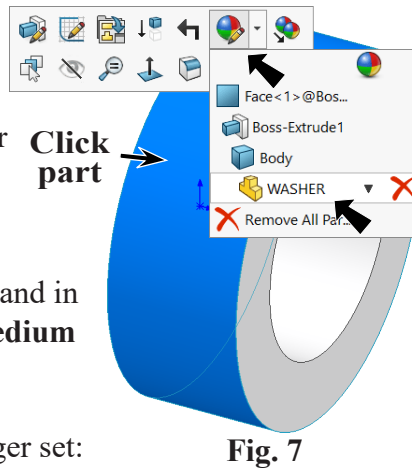

Fig. 7
Step 1. Click part, click **Appearance** Callout on the context toolbar and click **WASHER**, Fig. 7.